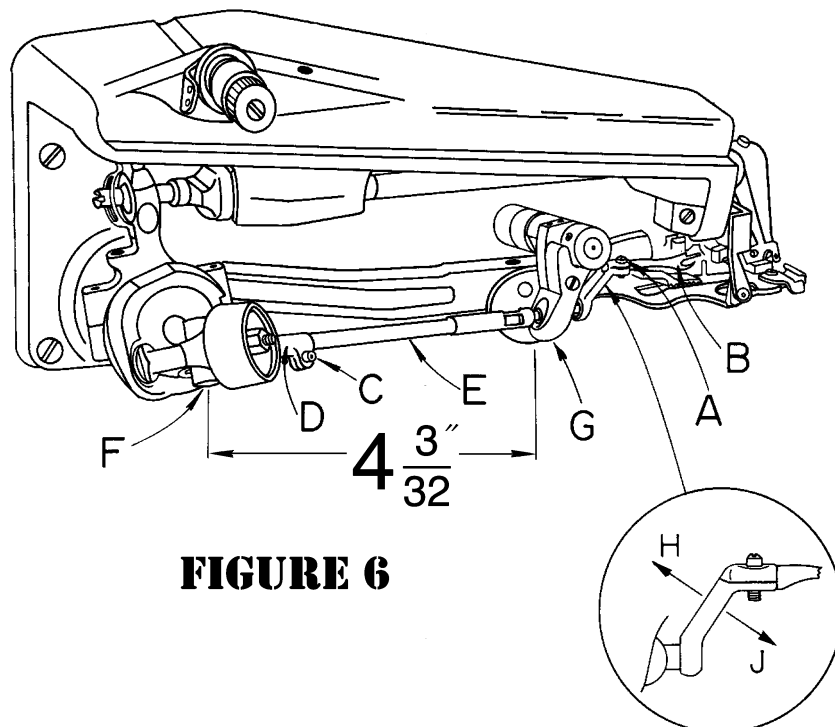

FIGURE 6
1. Should it become necessary to replace the looper (*item "B" in Figure 6*), loosen the looper clamp screw (*item "A" in Figure 6*) and remove the old looper. Because of the precise fit of the looper in the looper rod it may be necessary to exert a moderate amount of force to pull the looper out. Insert the new looper into the end of the rod as far as it will go before bottoming on the looper shoulder.
3. To adjust the looper so that the timing checks out as noted in paragraph 2, it may be rotated within its clamp by a limited amount. This adjustment should be made with the looper clamp screw (**item "A" in Figure 6**) loosened, and the looper bottomed against its shoulder. Do not move the looper in or out, and do not attempt to force the looper to turn beyond the limited amount of travel available.
4. If the adjustment described in paragraph 3 is insufficient to provide the correct timing, it will be necessary to turn the looper rod (**item "E" in Figure 6**) itself. This may be accomplished by loosening with looper rod clamp screw (**item "C" in Figure 6**). The rod is then free to turn in the looper rod fork (**item "D" in Figure 6**). It will normally be necessary to make only a very small adjustment in order to get the looper into the correct rotational position for proper timing. If, for any reason, the rod has been removed or the basic setting of the looper rod has been disturbed by a large amount, it may be reset by noting that the distance from the center of the looper rod fork pin (**item "F" in Figure 6**) to the rear face of the looper rod ball (**item "G" in Figure 6**) is normally 4 & $\frac{3}{32}$ inches (104mm) (refer to Figure 6). If the rod is set to this dimension then only minor adjustment will be required to bring the looper into the correct timing position. Note that this dimension is merely a guide to assist in setting a rod and variations may be expected from machine to machine.
For adjustment, refer to insert illustration **(Figure 6)**. To widen looper sweep, flex or bend looper crank in direction of arrow "H".